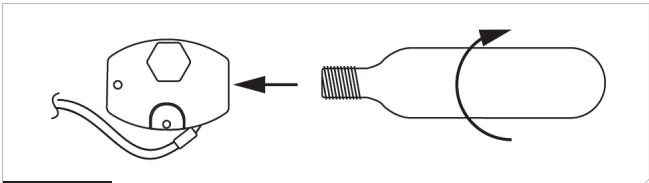

FIGURE 16 MD3072 E1 - INSTALL CYLINDER
8. Install new cylinder (MD3072 E1 see Fig. 16 and 16A for MD3810 E1). Hand-tighten.